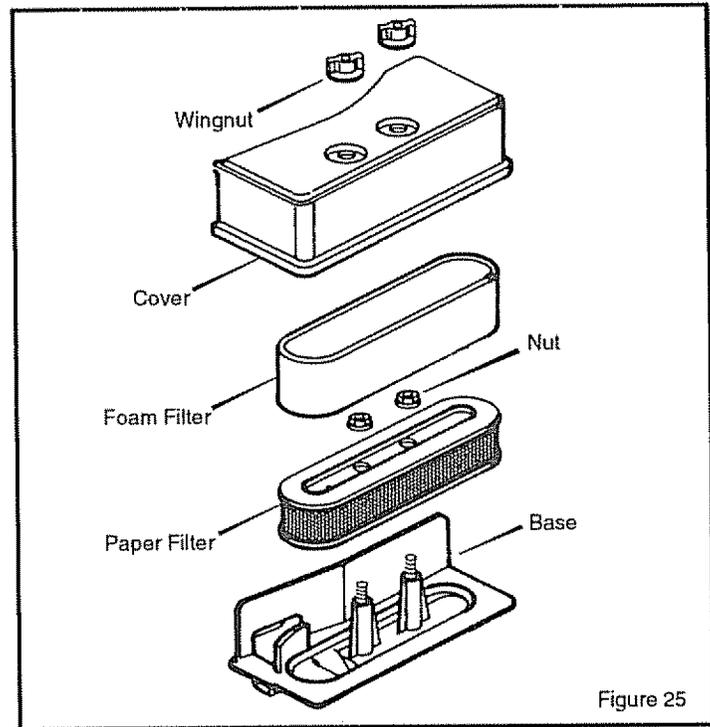

Figure 25
1. Remove the two **wingnuts** from the **cover** (Figure 25).